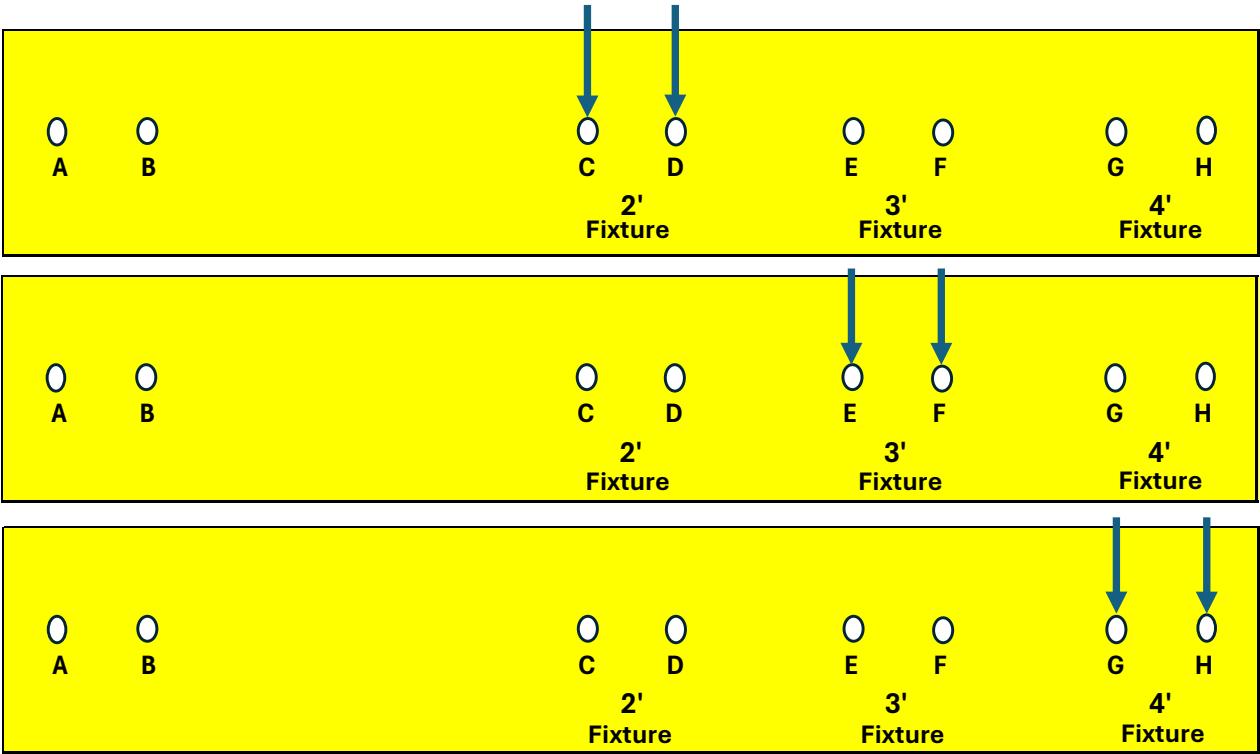

Figure 9
STEP 9 Then mark both holes of the next fixture size in the linear run 2 foot (C and D) , 3 foot (E and F), or 4 foot (G and H) as shown in the Figure 9 below